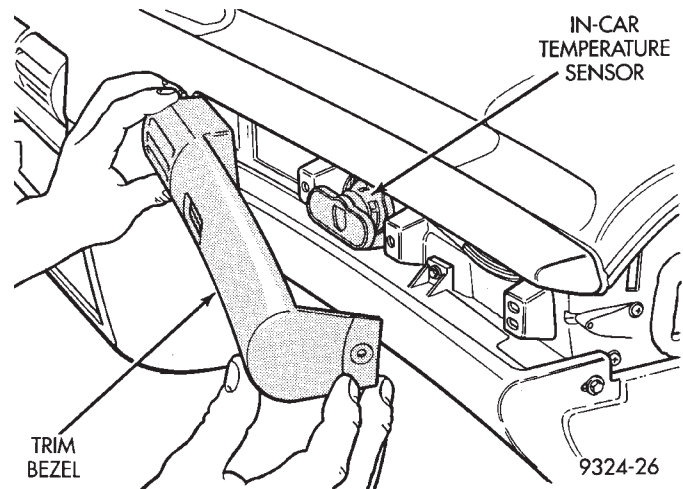

Fig. 4 Trim Bezel Removal
(2) Remove right trim bezel from instrument panel (Fig. 4). It is held in place by friction and a screw.
(3) Remove sensor retaining screws.
(4) Pull out sensor from instrument panel and disconnect wiring.